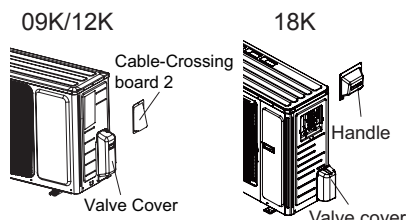

Fig.21
- (1) Remove the screw on the right Cable-Crossing board 2 or handle and valve cover of outdoor unit and then remove the Cable-Crossing board 2 or handle and valve cover.(As show in Fig.21)